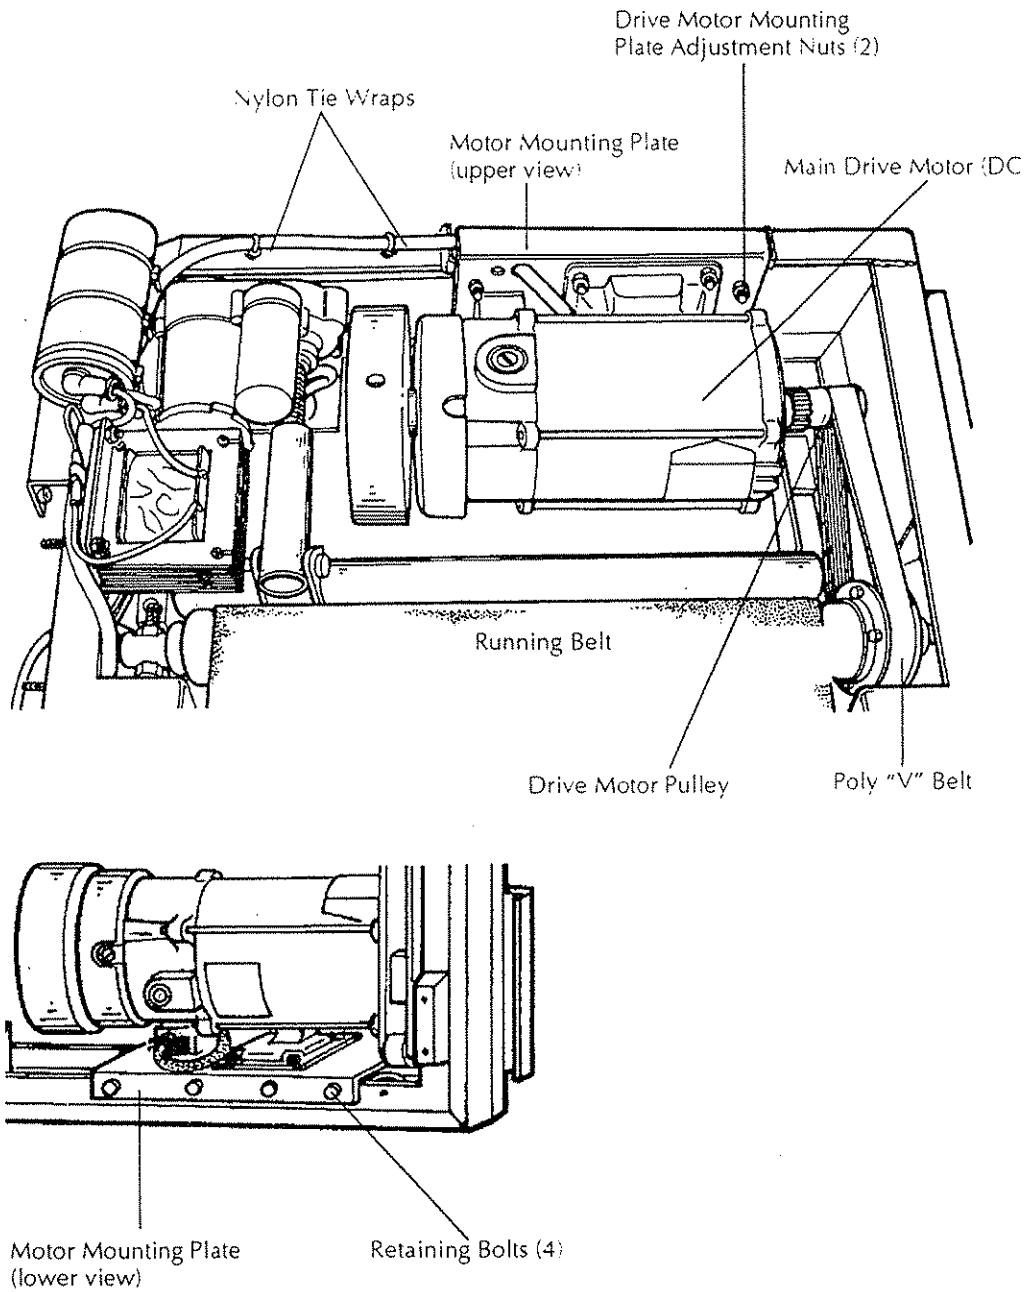

Figure 5-16: Replacing the Main Drive Motor (DC)
3. Remove the four retaining bolts securing the lower portion of the motor mounting plate to the treadmill frame. See Figure 5-16.
8. Remove the two adjustment nuts securing the upper portion of the motor mounting plate to the treadmill frame. See Figure 5-16.
9. Tilt the main motor forward, towards the rear of the treadmill, and remove the Poly "V" belt from its pulley. See Figure 5-16.
10. Remove (cut) the nylon tie wraps securing the main motor's power cord to the treadmill frame. See Figure 5-16.
11. Lift the main motor (DC) from the treadmill frame. Set the main motor aside.